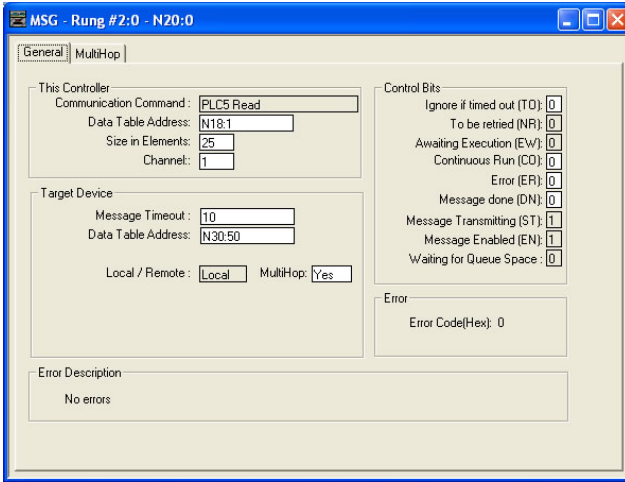

Figure 115: MSG Configuration, "General" Tab
- b) Upon hitting the <ENTER> key while in the “Control Block” entry box, the MSG Properties dialog box should appear (or it can be opened by clicking on the “Setup Screen” button at the bottom of the MSG instruction). Refer to Figure 115.